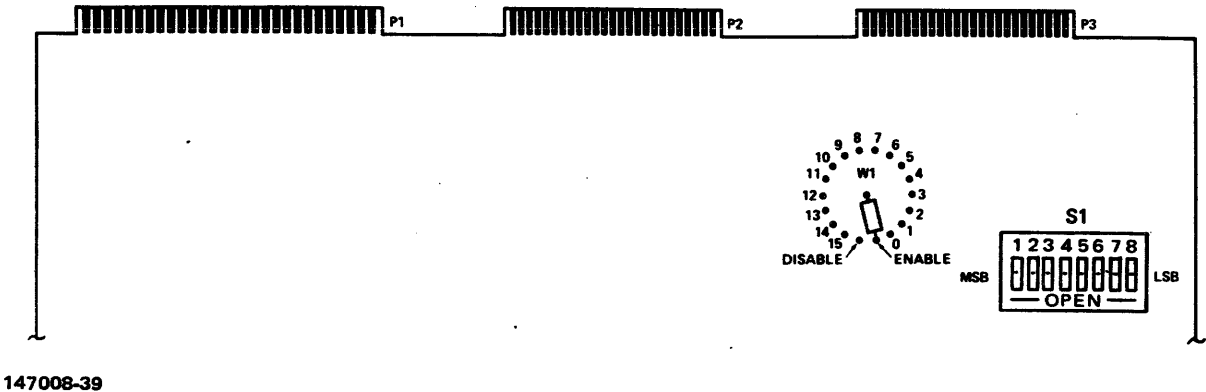

Figure E-5. Terminal Control Interface PCA
**TERMINAL CONTROL INTERFACE PCA (FIGURE E-5)**